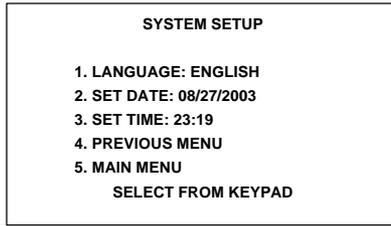

Figure 6-11. SYSTEM SETUP Screen 2
3. **RESISTANCE TEST:** DC winding resistance function can either be active (YES) or inactive (NO). Selecting 3 and using the scroll keys until the appropriate functional state is displayed on the screen choose the desired state by depressing the ENTER key.
4. **POLARITY:** Polarity test function can either be active (YES) or inactive (NO). Selecting 4 and using the scroll keys until the appropriate functional state is displayed on the screen choose the desired state by depressing the ENTER key.
5. **MORE:** Selecting 4, an additional SYSTEM SETUP screen is displayed, Refer to Figure 6-11.